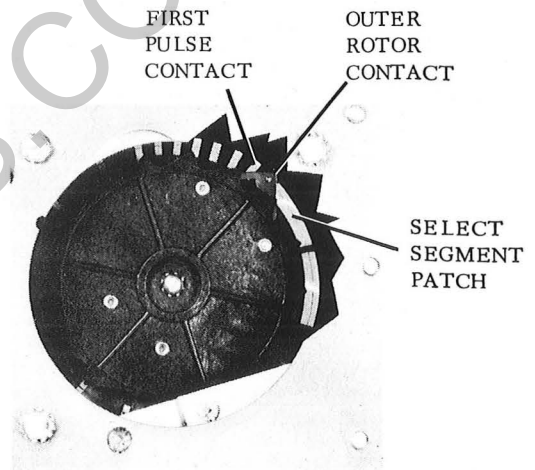

Figure 4.
22. At this point the OUTER ROTOR CONTACT should be 1/2 to 3/4 the distance from the SELECT SEGMENT PATCH to the FIRST PULSE CONTACT as shown in Figure 4. Readjust SWITCH and BRACKET ASSEMBLY as necessary to meet this requirement.
26. Reinstall RELAY MOUNTING BRACKET and WIRE ASSEMBLY on Selector Mechanism Assembly, as shown in Figure 4, and secure with two screws removed in Step 8.